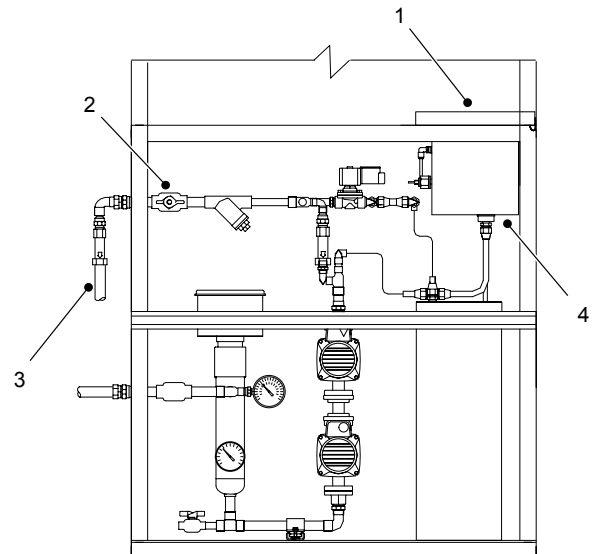

Figure 5 Filling the Water Reservoir
7. See Figure 5. If necessary, purge the air and prime the pumps:
- b. Close the From Process return line valve (2). Disconnect the hose (3) and hold it in the reservoir (4).
- d. Connect the hose (3). Open the From Process return line valve (2).
1. See Figure 5. Remove the cover (1) on the reservoir (4).
2. Mix 1.5 oz of Corrshield MD405 with a gallon of water. Pour this mixture into the reservoir (4).
3. Install the cover (1) onto the reservoir (4).